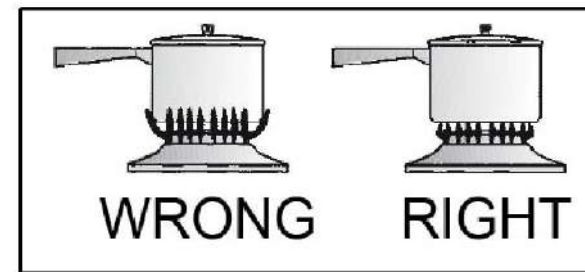

Figure 25
- **⚠ Never extend the flame beyond the outer edge of the utensil.** A higher flame simply wastes heat and energy, and increases your risk of being burned by the flame. (See Figure 25)